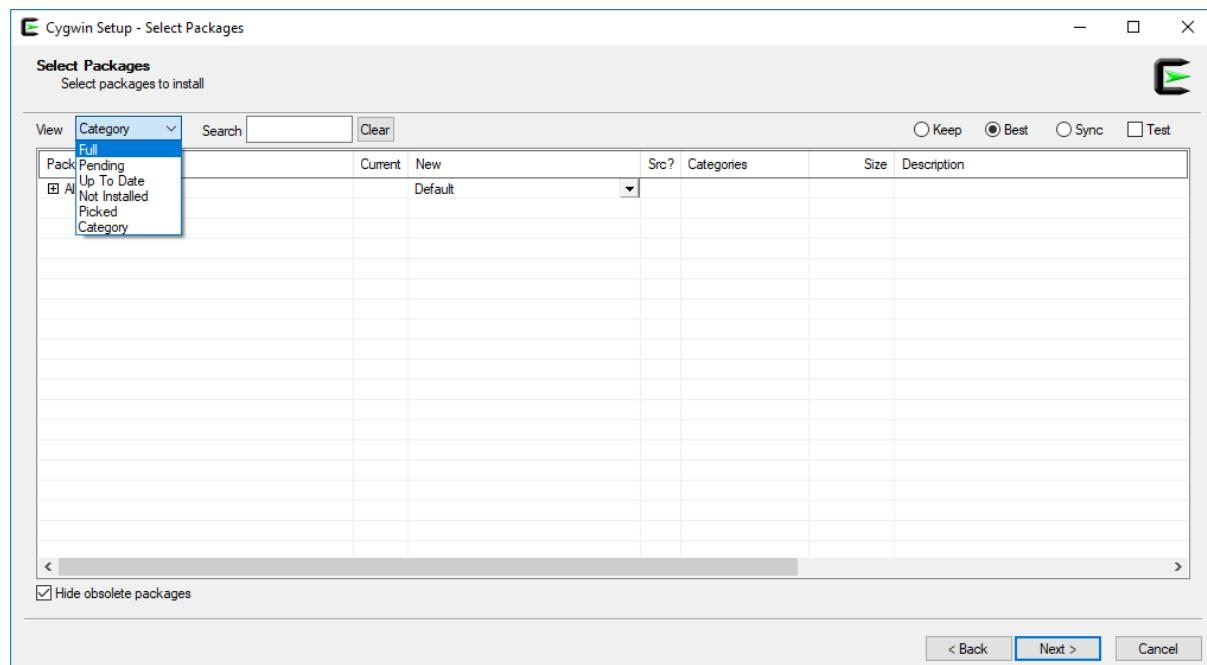

Figure 86. Select Packages window
3. After several steps, you will reach the **Select Packages** window (Figure 86). Select the **Full** view, as shown in Figure 86.